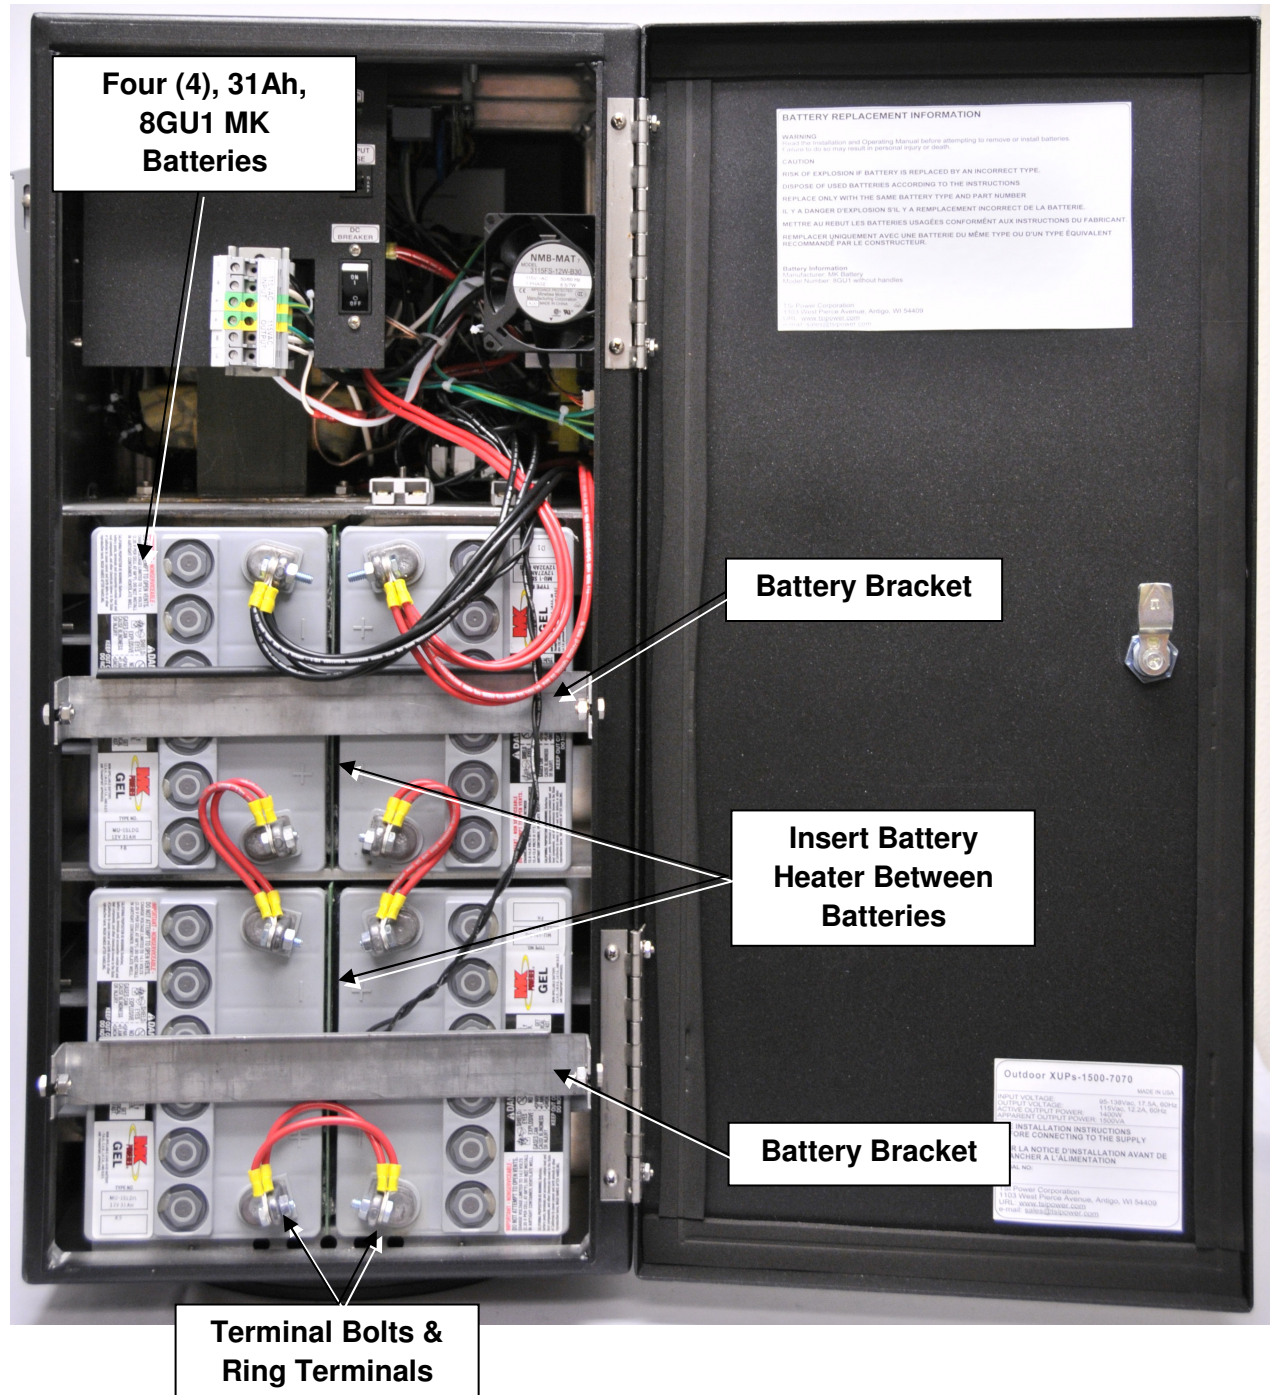

Figure 16: Batteries Shown in Open Battery Compartment
- 6.1 STATUS ALARMS** – Relay contact status alarm signals are available through the DB-9 connector located in the top left corner of the electronics compartment. See Figure 16. The following output pins have been assigned:
6.21 The two battery compartments each hold four (4) 31Ah, 8GU1, MK Batteries. See Figure 16.